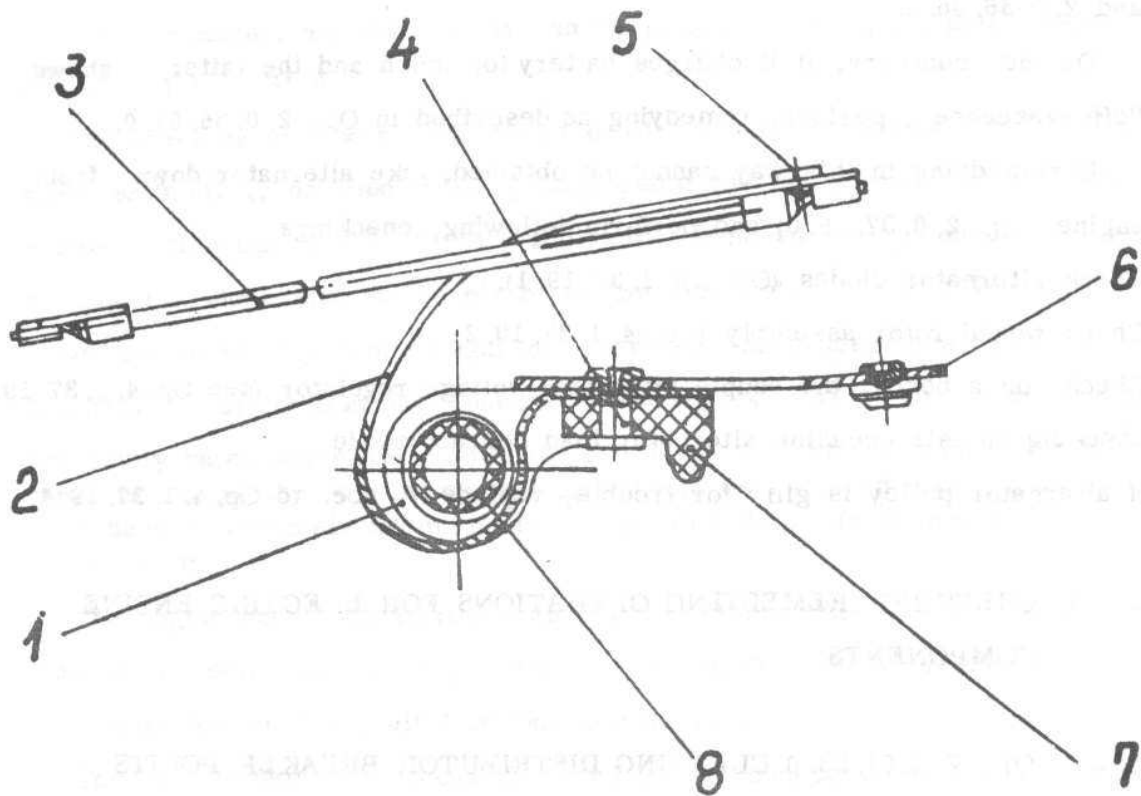

Fig. 4.30. BREAKER ARM (ASSY)
- Remove then breaker arm and perform the same adjusting as by fixed contact (see fig. 4.30).